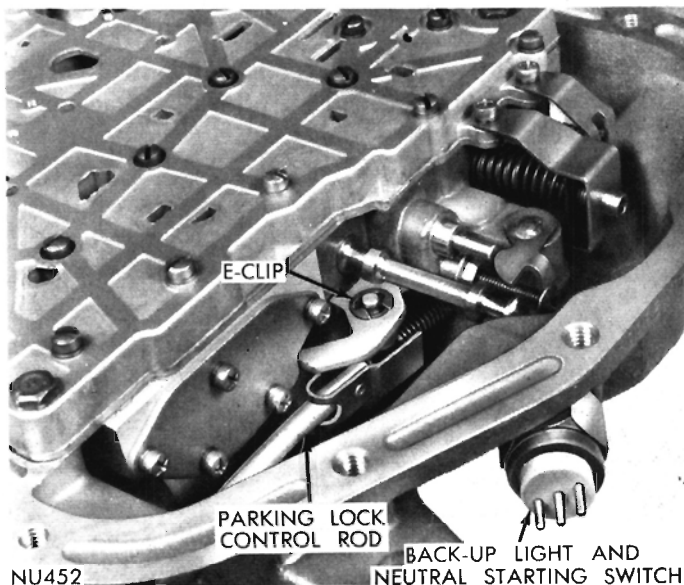

Fig. 36—Parking Lock Control Rod Retaining E-Clip
- (4) Remove E-clip (Fig. 36), securing parking lock rod to the valve body manual lever.
- (5) Remove Back-Up Light and Neutral Start Switch.
- (6) Place a drain pan under transmission, then remove the ten hex-head valve body to transmission case bolts. Hold valve body in position while removing the bolts.
- (7) While lowering valve body down out of transmission case, disconnect parking lock rod from the lever.